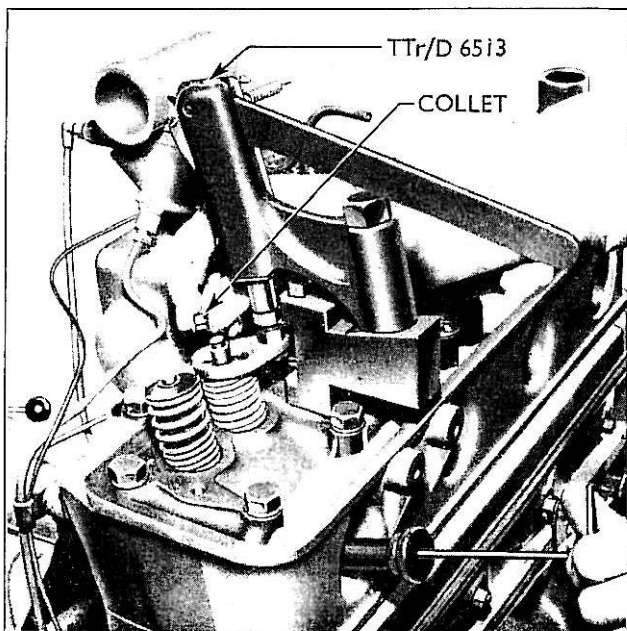

Fig. 49
- 4 Locate the foot of the tool over the valve and pull down the cam handle to compress the valve spring and extract the taper cotters (see Fig. 49). Release the cam handle and remove the spring retainer, valve spring and rubber sealing ring.
- Mount the valve spring compressor (tool No. TTr/D 6513) on the cylinder head and secure it with the rocker shaft support bolt (see Fig. 49) nearest the valve to be removed.